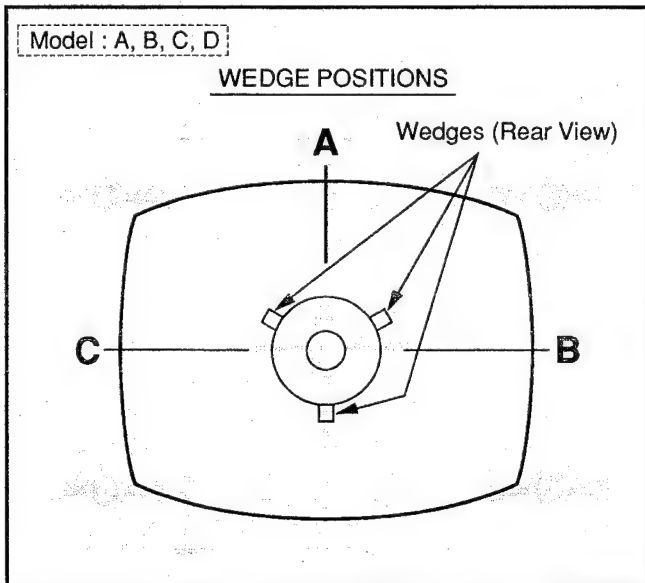
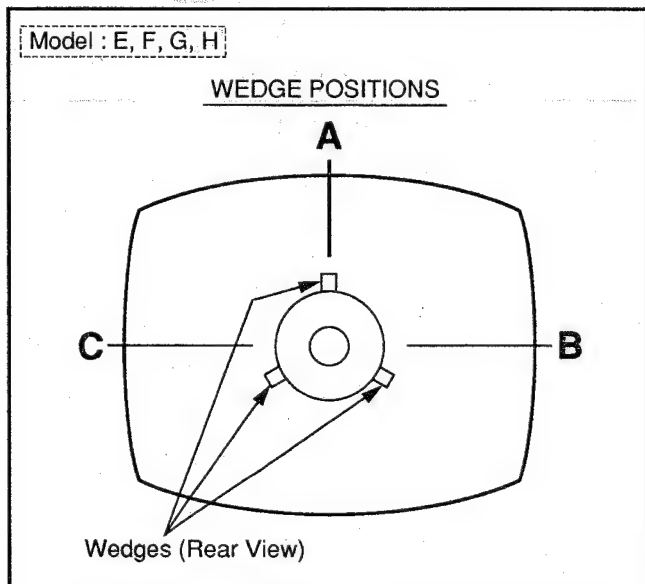

Fig. E15-1
Fig. E15-2
4. Insert three wedges as shown in Fig. E15-1 : Model , A, B, C, D or Fig. E15-2 : Model E, F, G, H to maintain the correct crosshatch pattern position.